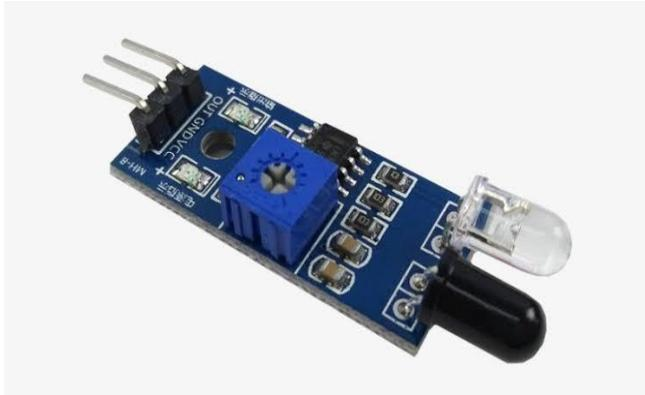

Figure 5. Infrared Sensor
**Infrared sensor**- Basically the infrared sensor is used for obstacle detection. It consists of infrared transmitters and infrared receivers. The infrared transmitter transmit an infrared radiation when this radiation hit any obstacle it bounce back, thus reflected infrared signal is receive by the infrared receiver. When any obstacle is detected by the infrared sensor the led pin will blink indicated that the object is detected. The device itself has two led indicator, one is for obstacle indicator led and the other one is power indicator led. Whenever the motion is detected by the infrared sensor the output pin goes low. It has three pin namely output pin, vcc pin and the ground pin. The below figure 5. Shows the image of infrared sensor.